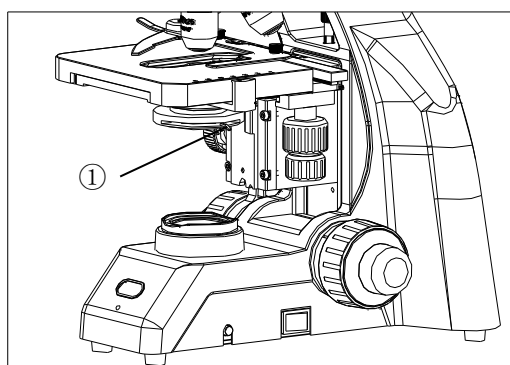

Fig.20
3.2.5 Aperture Iris Diaphragm Adjustment (Fig.20)